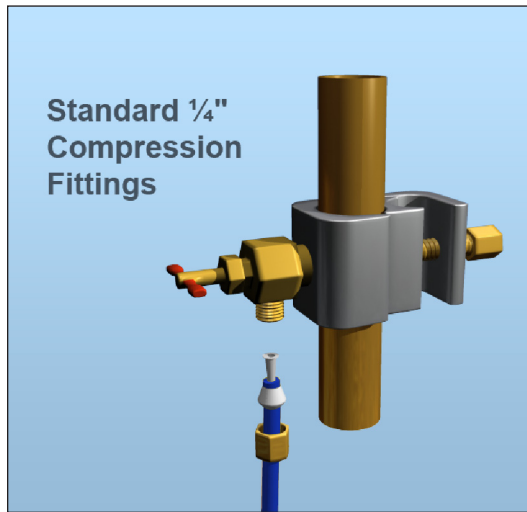

Figure 3, Feed-water saddle valve installation
- 2) Slide clamp over the copper tubing and tighten screw firmly to hold the clamp in position. (See Figure 3, opposite)